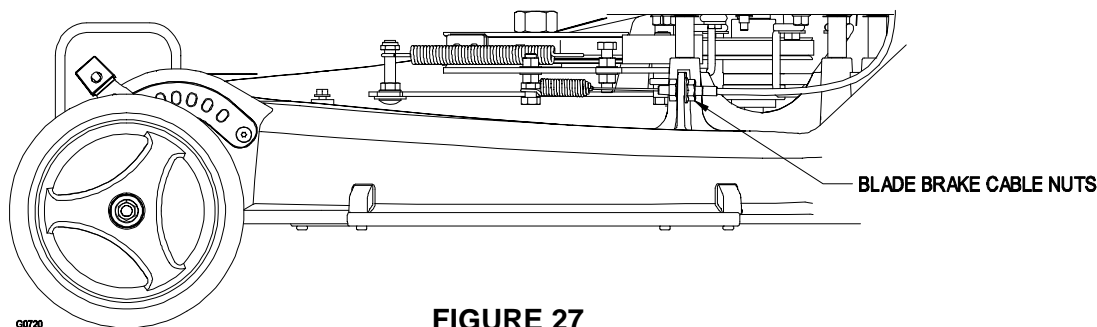

FIGURE 27
- d) Loosen the blade brake cable nuts until the cable conduit slides (Figure 27).